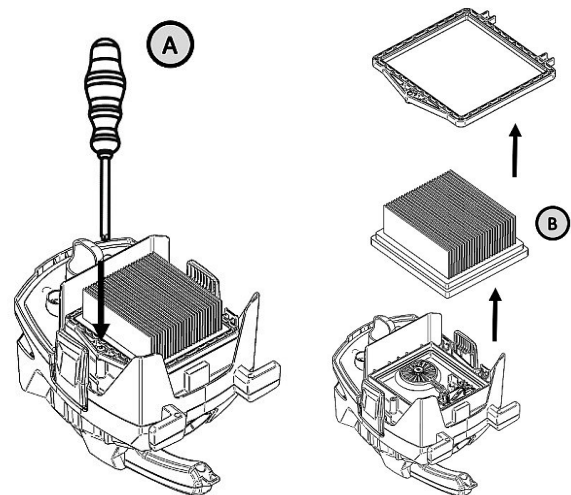

Fig. 14: Remove filter
Step 3: Loosen screw A (Fig. 14) and remove filter B (Fig. 14).